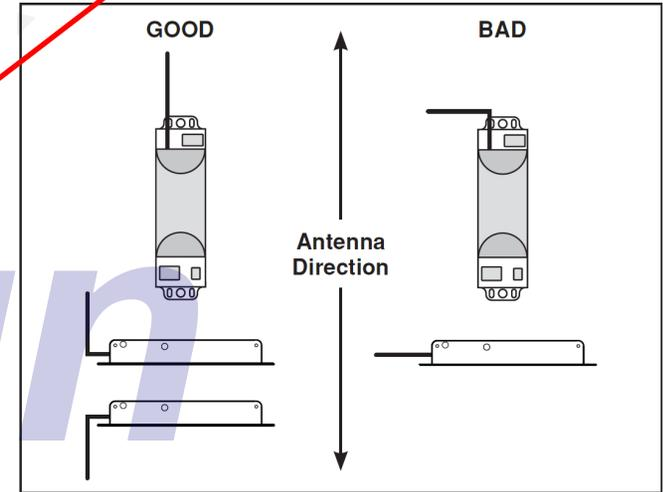

Figure 1 - Antenna Orientation
Option A. For standard installation: place the AIM-121 in the desired location and secure it using (4) #8 screws. Prior to permanently mounting it, make sure the antenna points directly upward and is free of any metal objects within 12 in. of the antenna (Figure 1).
Note: When installing the AIM-121 into an enclosure, consideration of antenna position and interference is required to provide the optimum wireless signal strength. (Figure 1)